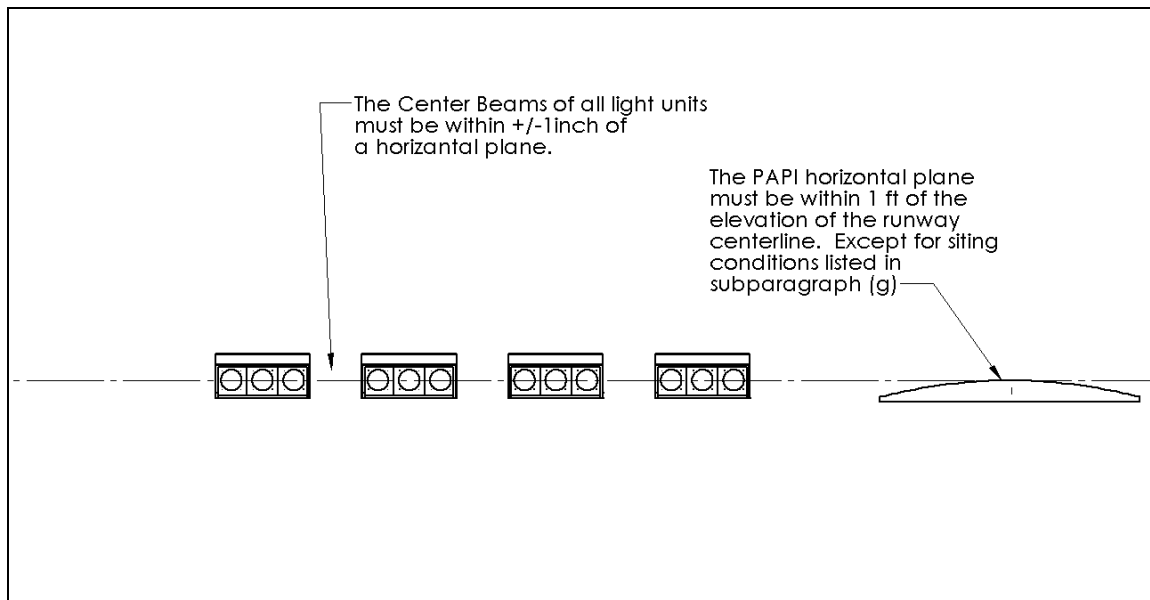

Figure 6: Placement of Light Unit
- Level all the light units to the same horizontal plane (see Figure 6, pg. 26 for initial installation)